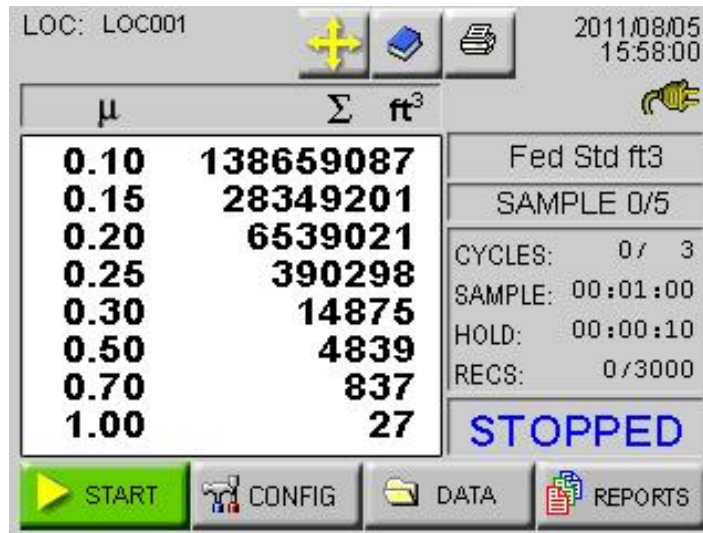

Figure 6-87 Reports Data
- When the reports mode is enabled, the currently selected report type and minimum required samples will be displayed on the MAIN screen as shown in Figure 6-87.